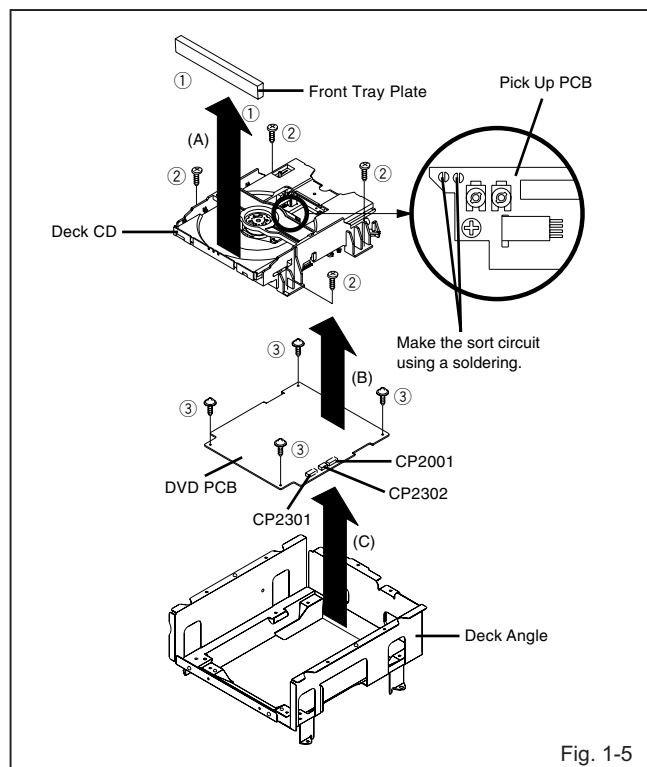

Fig. 1-5
1-5: DVD PCB/DVD DECK (Refer to Fig. 1-5)
1. Make the short circuit on the position as shown **Fig. 1-5** using a soldering. If you remove the DVD Deck with no soldering, the Laser may be damaged.
2. Unlock the 2 supports ①.
3. Remove the Front Tray Plate in the direction of arrow (A).